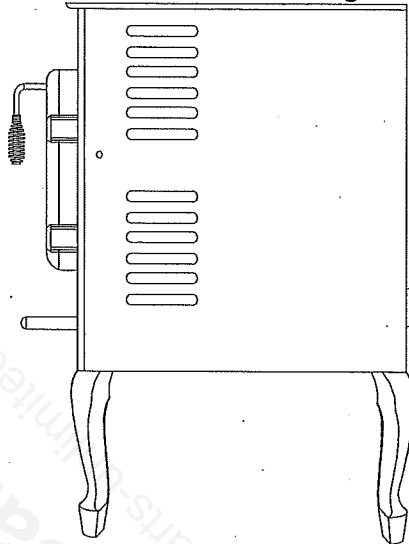

FIGURE 6: LEG INSTALLATION
1. Locate the eight (8) bolts in the package that comes with the leg kit.
2. Bolt the four (4) legs to the bottom of the pellet stove using two bolts per leg for a total of eight (8) bolts through the holes provided at the bottom corner of each unit.
3. Leveling bolts allow for leveling the NPS-1000. The pellet stove should be level or slightly declined from front to back. This prevents “bridging of pellets” that may occur if the stove is not level. See FIGURE 6 that shows legs installed.